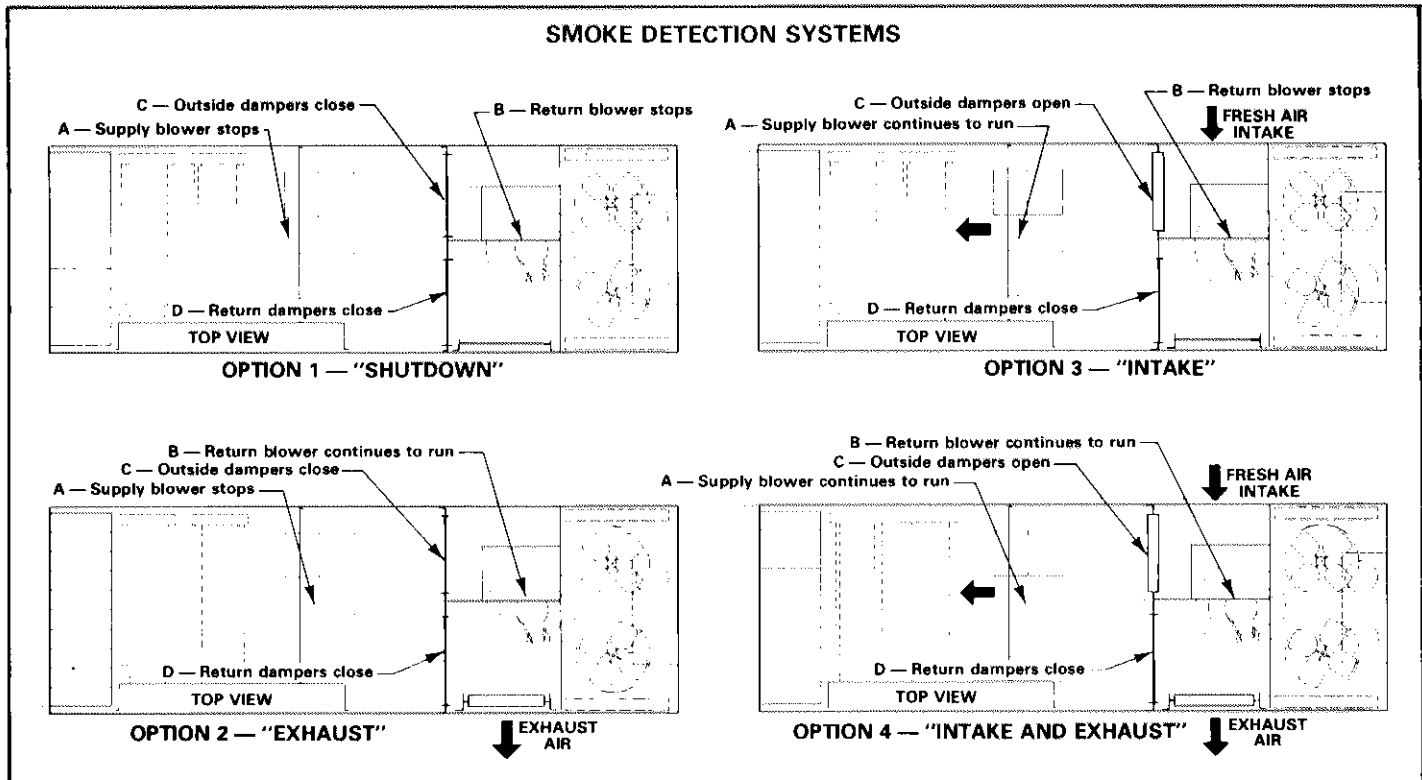

FIGURE 18
- 5 - With the presence of smoke, the smoke detection system (optional) terminates heating and cooling functions and provides 4 options of controlling blower and damper operation. See Figure 18.